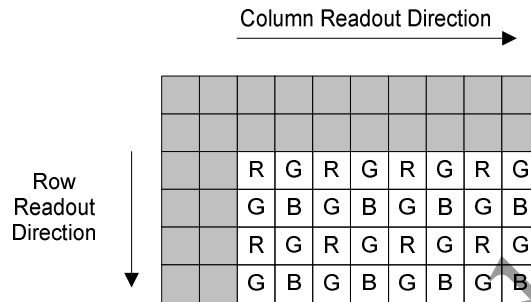

Fig. 1 Color filter array layout
The NT99250 is a 1/5" CMOS image sensor. This sensor contains 1600 (H) x 1200 (V) pixels. CFA (Color Filter Arrays) are in a Bayer pattern. Fig. 1 shows the color filter array layout.